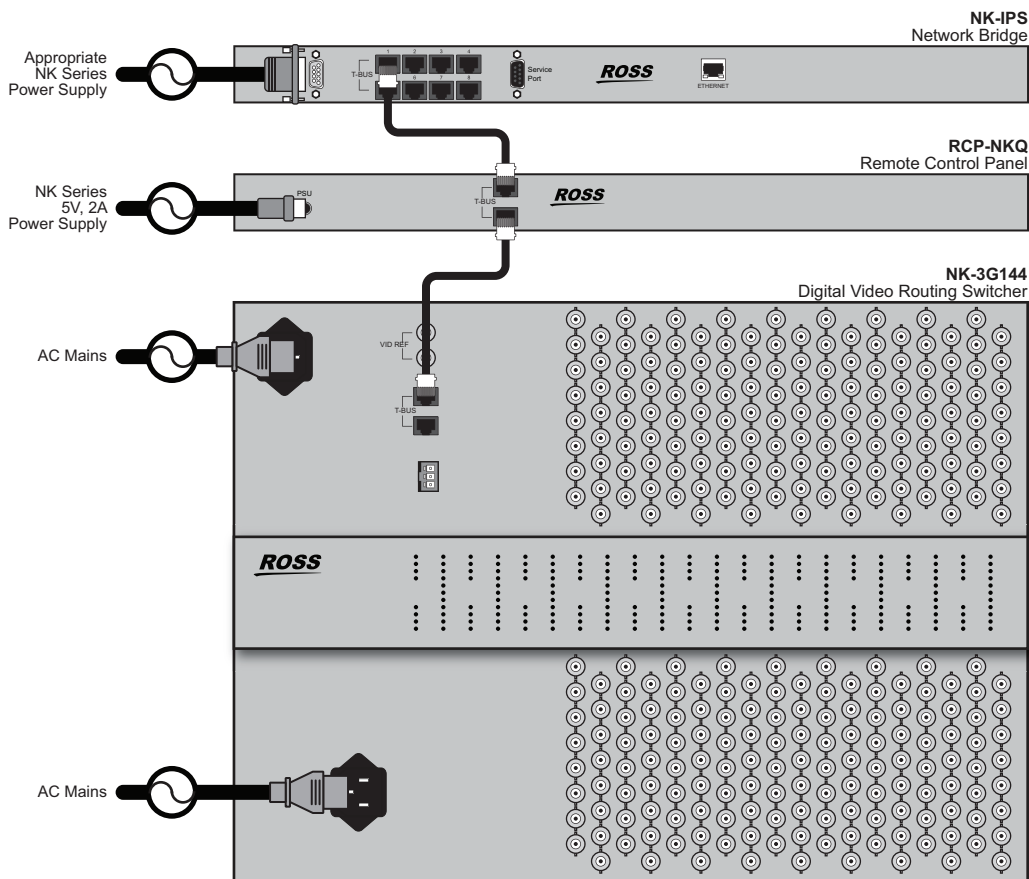

Figure 4.3 NK Series equipment in a daisy-chain layout
3. Connect a straight-through CAT5 cable between the **T-BUS** connector on the rear panel of the NK-3G144 and a **T-BUS** connector on the rear panel of a remote control panel or other control device, another NK Series routing switcher, or an NK-IPS (see **Figure 4.3**).